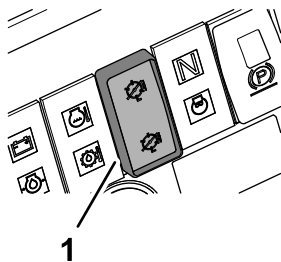

Figure 10
- To run the cutting units, press the top of the cutting-unit drive switch (Figure 10).